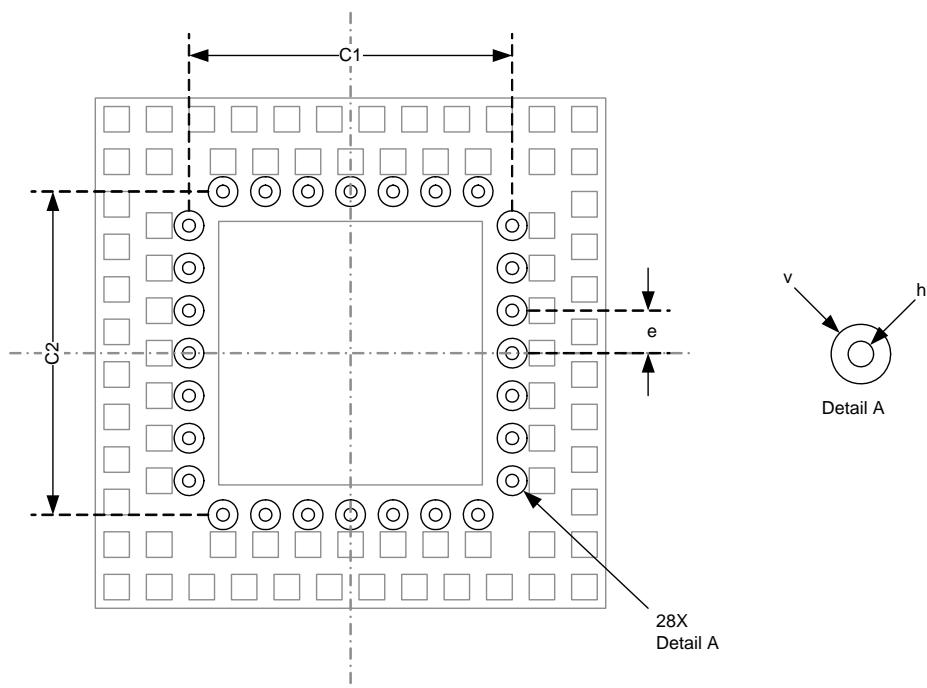

Figure 3.6. Recomended Inner Via Placement
1. Inner vias placement per Figure 3.6.